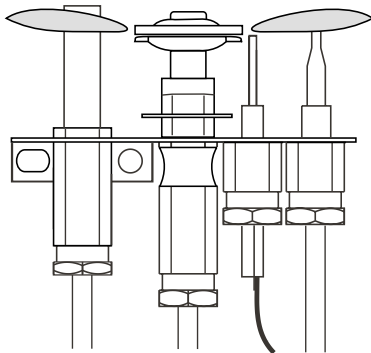

Figure 21. Pilot Burner
2. Adjust pilot key to provide properly sized flame. (See figure 21.)